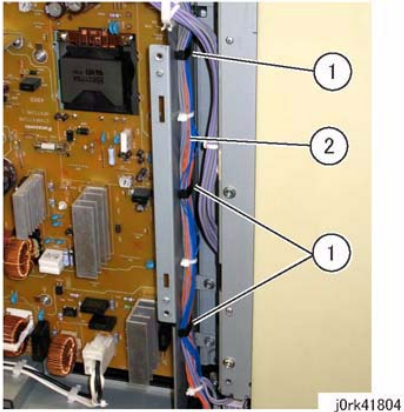

Figure 4 Main LVPS Harness
6. Release the harness that is secured to the Frame. (Figure 4)